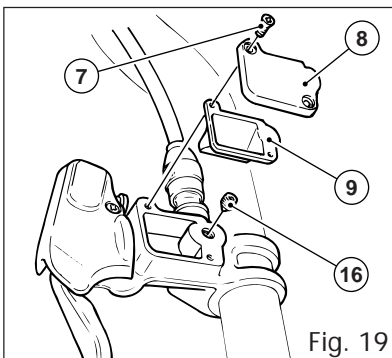
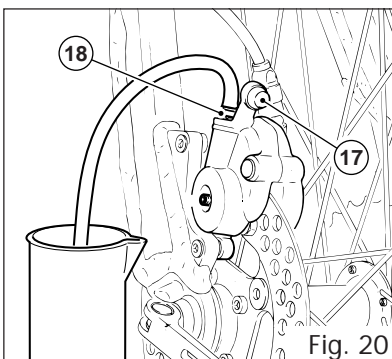

Fig. 19
Fig. 20
- take off the pumpreservoir lid (8, fig. 19) by unscrewing the 2 screws (7);
- take the rubber diaphragm (9) out;
- unscrew and remove bleeding screw (16) from the pump body;
- take the rubber cap (17, fig. 20) off the caliper bleed valve (18) and mount a transparent tube (4 mm immer diameter);